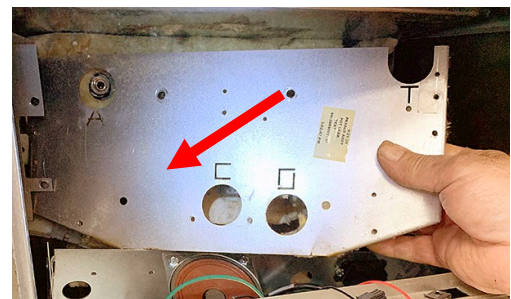

Figure 44
46. Remove the upper insulation retainer cover (see Figure 44).